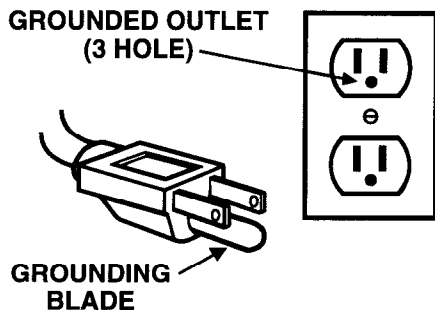

Figure 1
1. For North American models, connect only to a grounded 120 volt A.C. (3 hole) electrical outlet. See **Figure 1**.